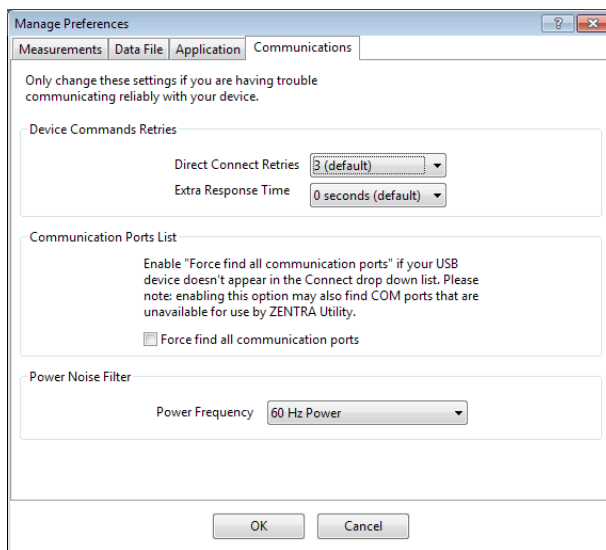

Figure 17 Communications tab
• Communications Tab (Figure 17):